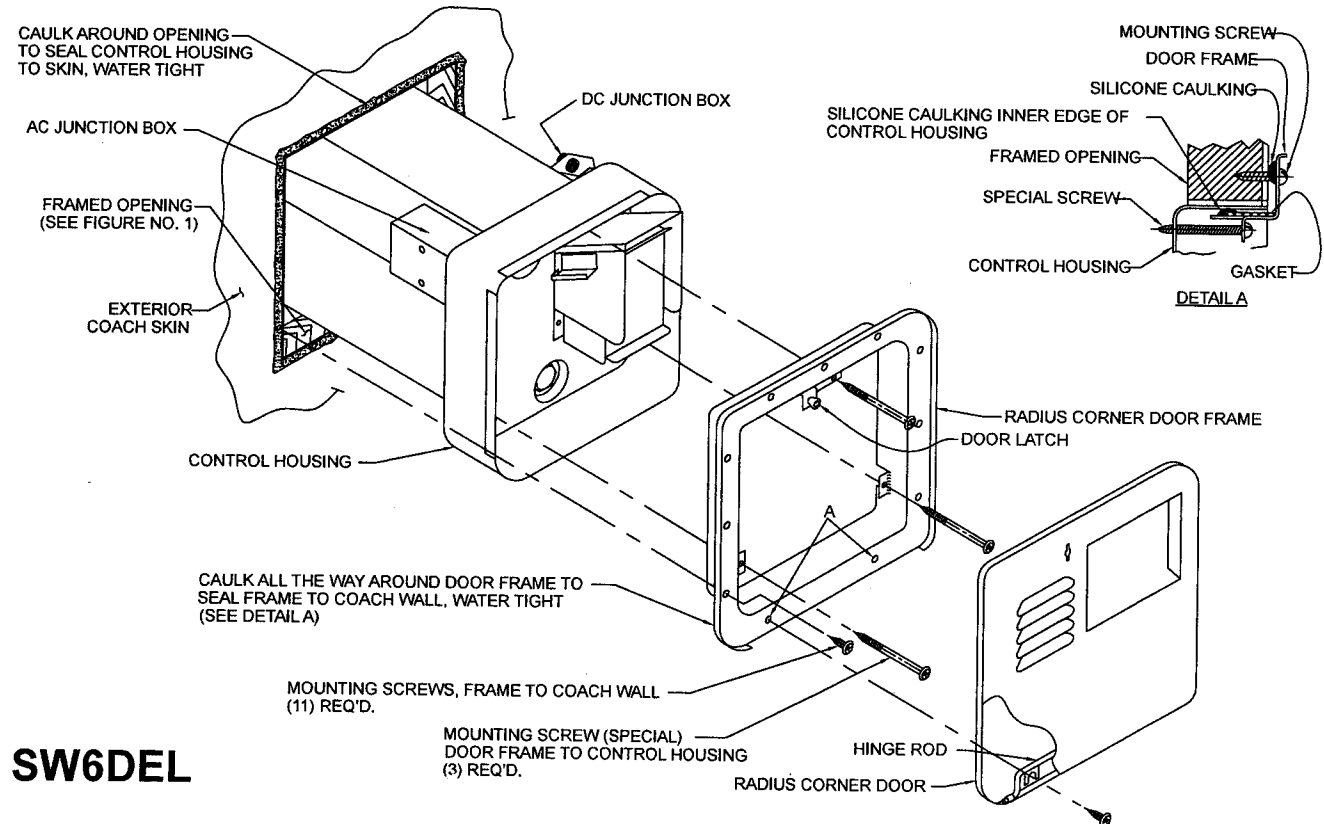

Figure 3
(See Figure 3 SW6DEL)
- F. Fit the door frame into control housing (over the caulking already applied) and pull frame tight to control housing using the three (3) No. 8-15 x 3 1/2" screws provided.
- G. Push water heater into framed opening until back side of door frame (now attached to control housing) is against the side of the coach and firmly attach with screws around the perimeter of the frame. **NOTE:** The two (2) holes in bottom of frame identified as "A" in Figure 3 are also used to mount door hinge to the frame.